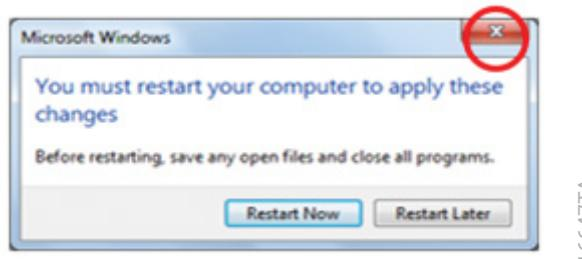

Figure 7. Spectrum Compact CE System Software New Device window.
3. The window in Figure 7 may be displayed when the instrument is powered up after a new device (USB memory, keyboard, barcode scanner, etc.) is connected. If displayed, select the **X** on the window to close it. The instrument can then be used normally.